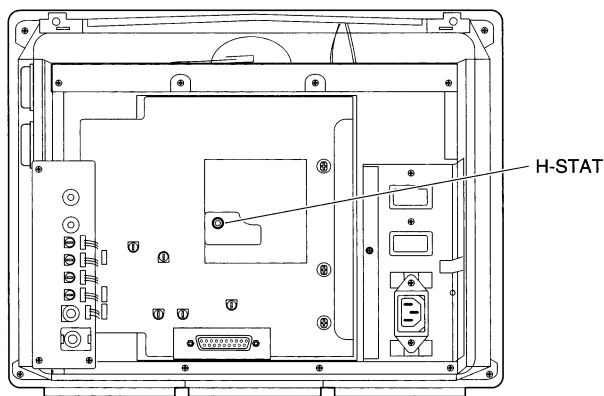

Figure 9 H-STAT Control
9. FIGURE 9. Locate the other H-STAT control beneath the plastic cover on video board "C." Turn the H-STAT control until the color-shadowed vertical lines of the test pattern blend to solid white.